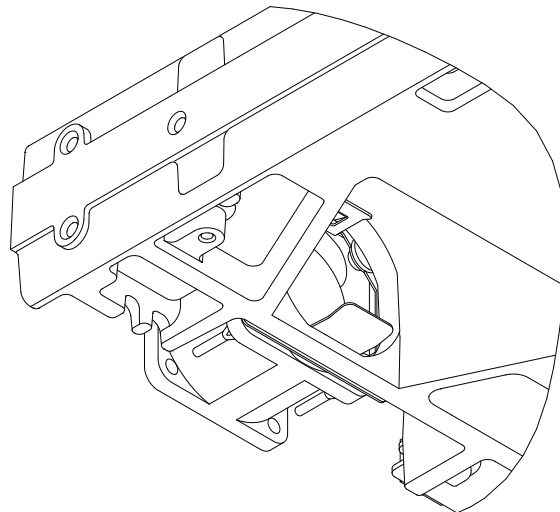

Figure 11-3 Removing Fan
1. Press the tab below the fan module until it disengages. See Figure 11-3 for location of tab.